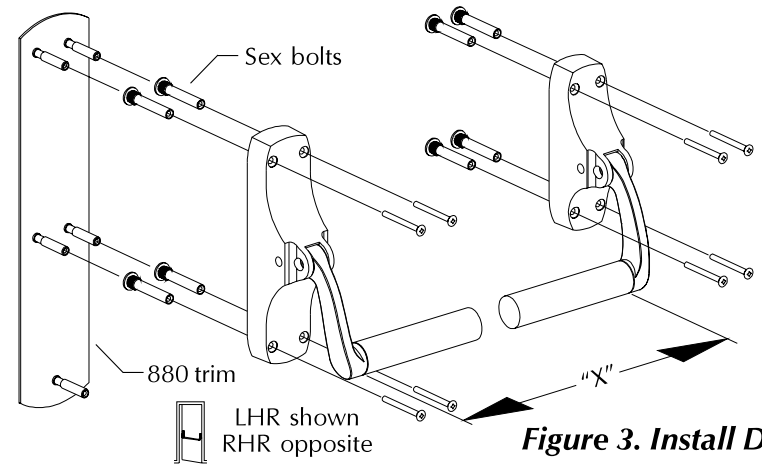

Figure 3. Install Device
9. Attach device cases to door (Figure 3).
11. Measure dimension "X" (Figure 3) and cut crossbar tube to dimension "X." Cut end without hole.